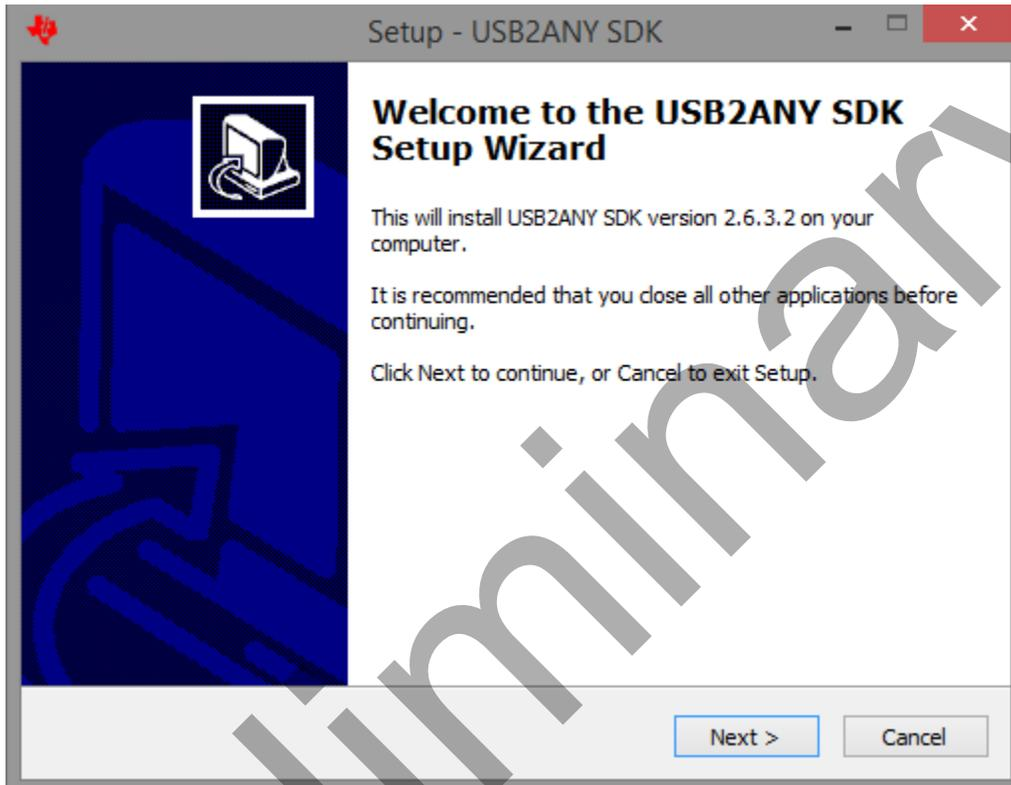

Fig 13: USB2ANY Installation
11. The USB2ANY installation will start after Python installation is finished. From the dialog as shown in *Fig 13: USB2ANY Installation* click on **Next>>** button